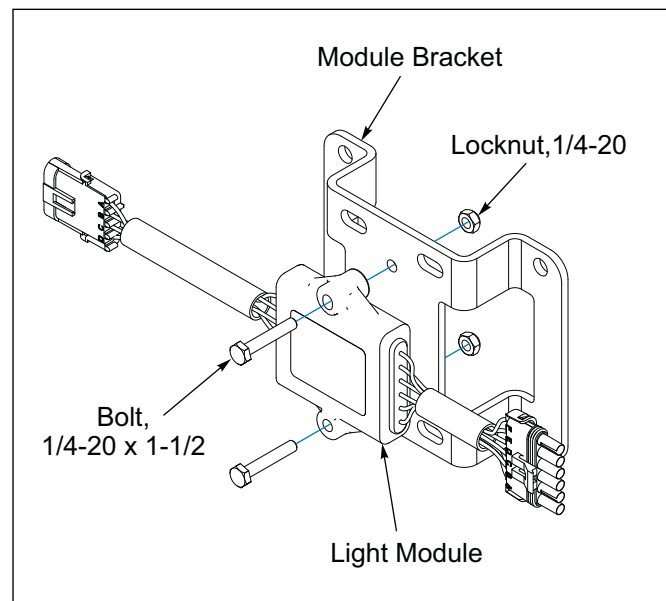

Figure 2-18: Light Module and Bracket
3. Attach the Light Module to the Module Bracket with 1/4-20 x 1-1/2 Bolts and Locknuts. **See Figure 2-18.**